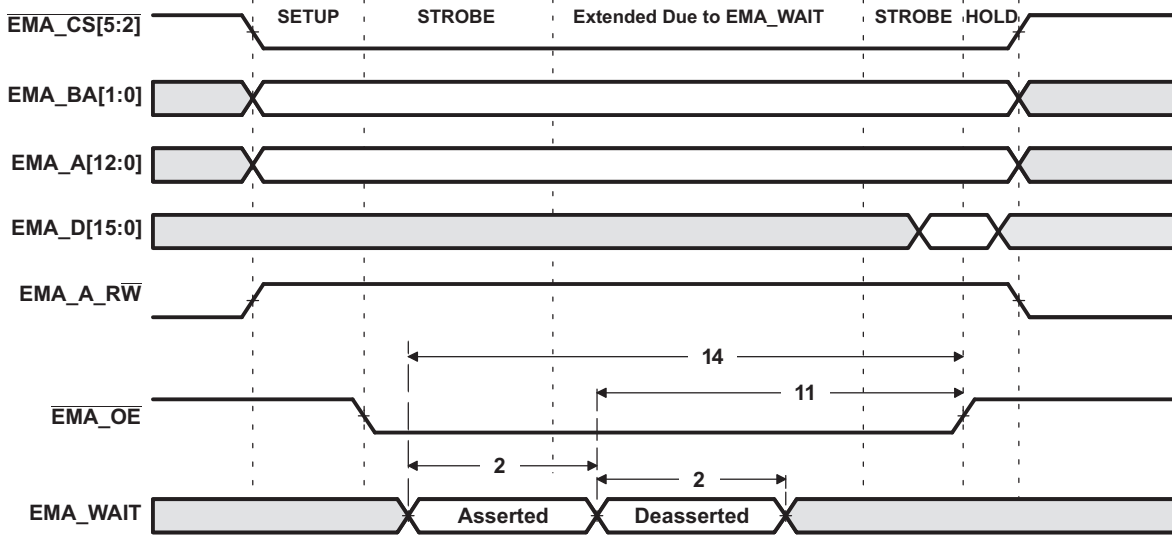
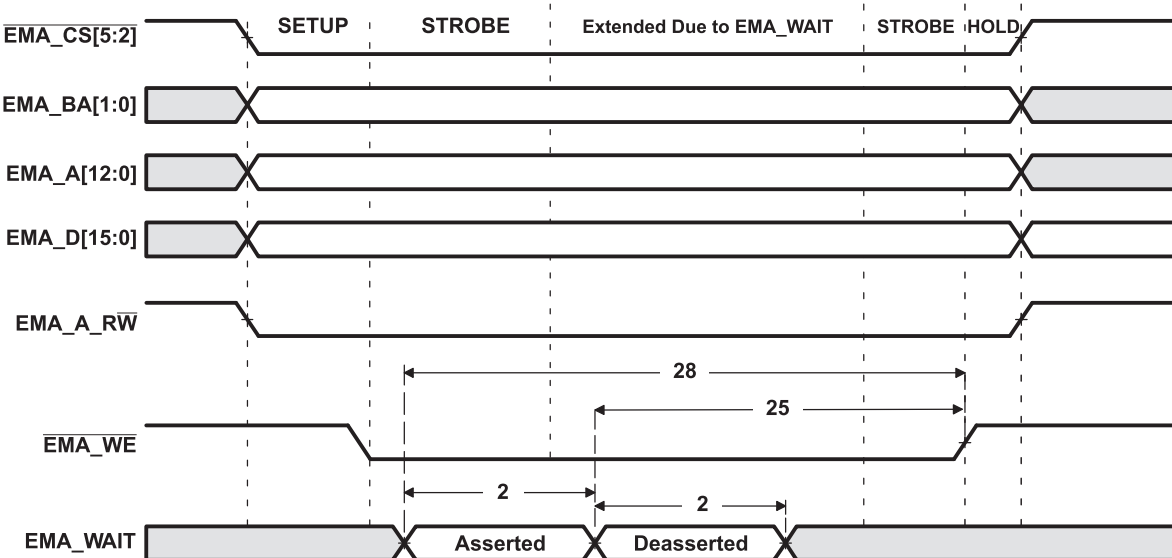

Figure 6-15. EMA\_WAIT Read Timing Requirements
Figure 6-16. EMA\_WAIT Write Timing Requirements
- (1) E = EMA\_CLK period or in ns. EMA\_CLK is selected either as SYSCLK3 or the PLL output clock divided by 4.5. As an example, when SYSCLK3 is selected and set to 100MHz, E=10ns.
- (2) Setup before end of STROBE phase (if no extended wait states are inserted) by which EM\_WAIT must be asserted to add extended wait states. Figure 6-15 and Figure 6-16 describe EMIF transactions that include extended wait states inserted during the STROBE phase. However, cycles inserted as part of this extended wait period should not be counted; the 4E requirement is to the start of where the HOLD phase would begin if there were no extended wait cycles.
**Table 6-20. EMIFA Asynchronous Memory Switching Characteristics(1) (2) (3)**